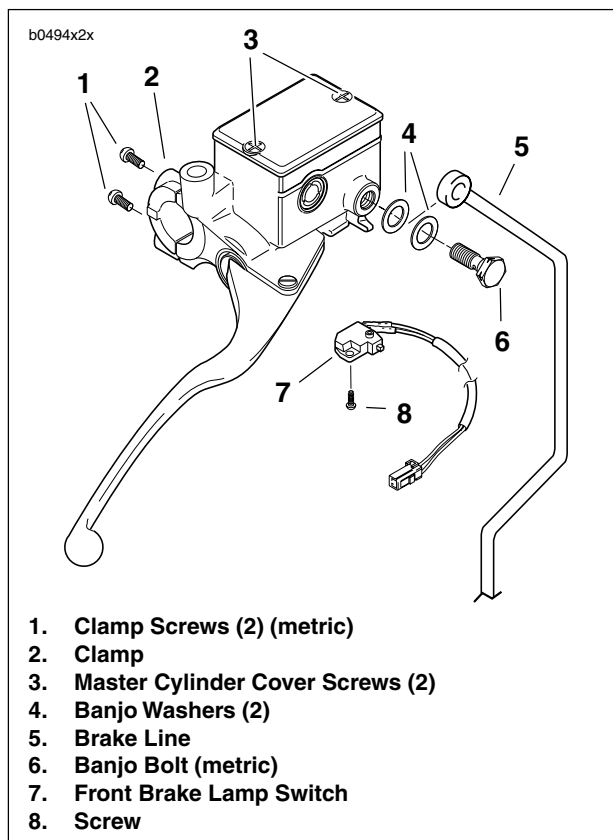

Figure 2-19. Front Master Cylinder
3. See Figure 2-19. Remove banjo bolt (6) (metric) and two banjo washers (4) to disconnect brake line (5) from master cylinder. Discard banjo washers.
4. Remove screw (8) or unplug both terminals to detach brake lamp switch (7).
1. See Figure 2-19. Fasten master cylinder to handlebar by installing clamp (2) and screws (1) (metric). Tighten to 80-90 **in-lbs** (9-10 Nm).
5. See Figure 2-19. Remove the two master cylinder cover screws (3), cover and cover gasket.